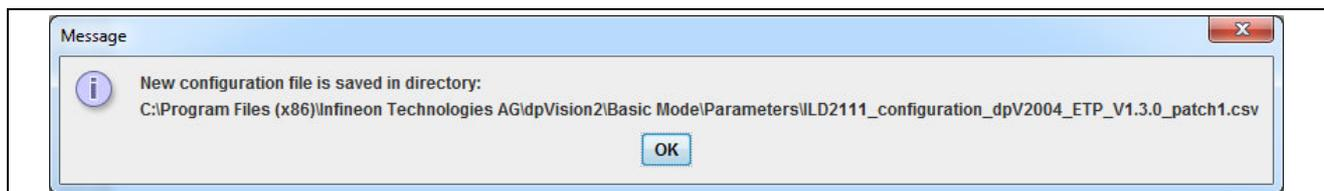

Figure 47 New csv Directory Path
2. Save the new configuration set with the changed parameter’s value – see Figure 45 (the configuration set could be saved with a different name). The user can decide if either the existing csv file is to be rewritten or if a new csv file is to be stored with another name – see Figure 47. The new configuration file will be saved in the directory whose path is shown in the window message – see Figure 47.